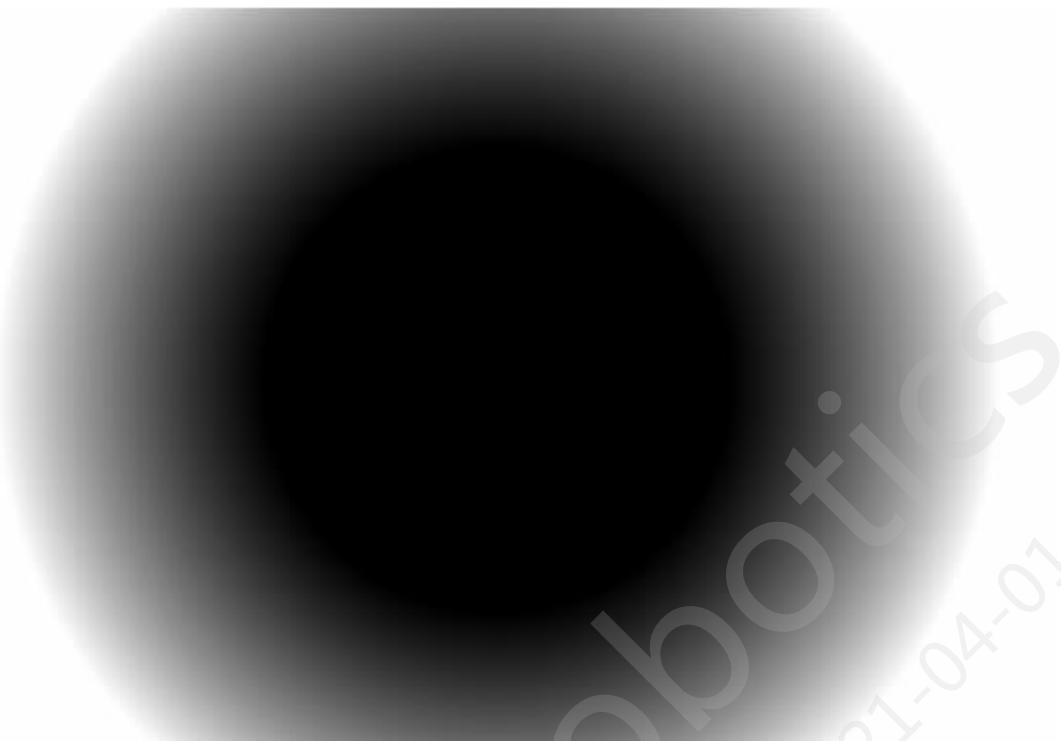

Figure 3.16-12 Tuned radial mask
12. Adjust Off\_center\_mult to spatially scale the radial profile. Adjust Shading\_lut values for greater control over the radial mask profile. Figure 3.16-12 shows a tuned radial mask.